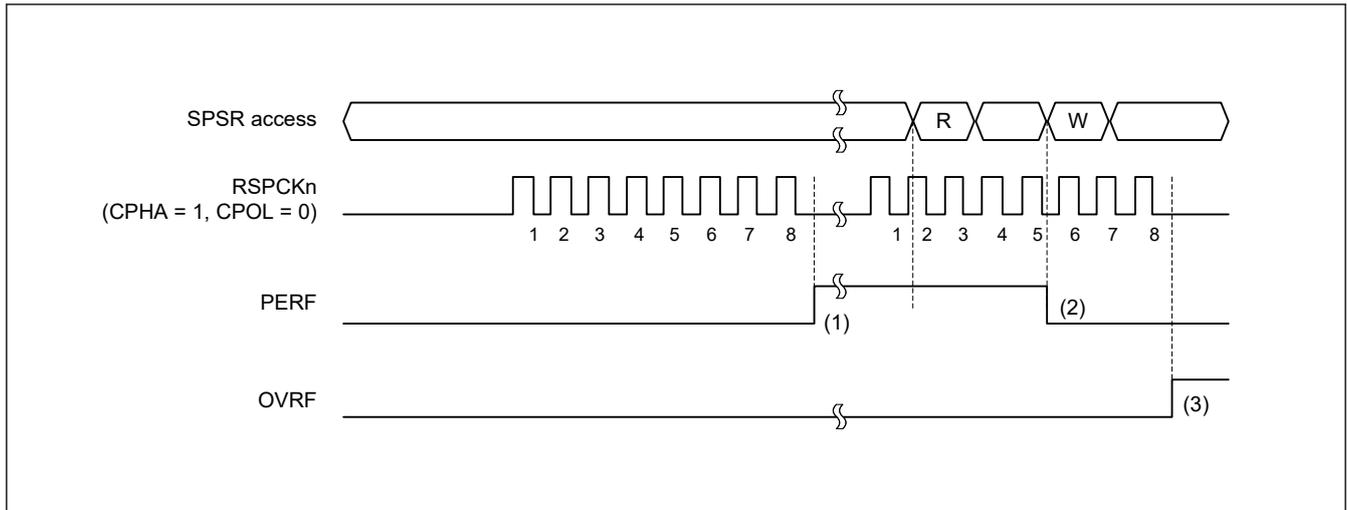

Figure 27.30 Operation example of the OVRF and PERF flags
Figure 27.30 shows an example of operation of the OVRF and PERF flags. The SPSR access shown in Figure 27.30 indicates the condition of access to the register, where W denotes a write cycle, and R a read cycle. In this example, full-duplex serial communication is performed while the SPCR2.SPPE bit is 1. The SPI performs an 8-bit serial transfer when SPCMD0.CPHA bit is 1 and the SPCMD0.CPOL bit is 0. The numbers given for RSPCKn in the waveform represent the number of RSPCK cycles, such as the number of transferred bits.
The operation of the flags at timings (1) to (3) in Figure 27.30 is as follows: